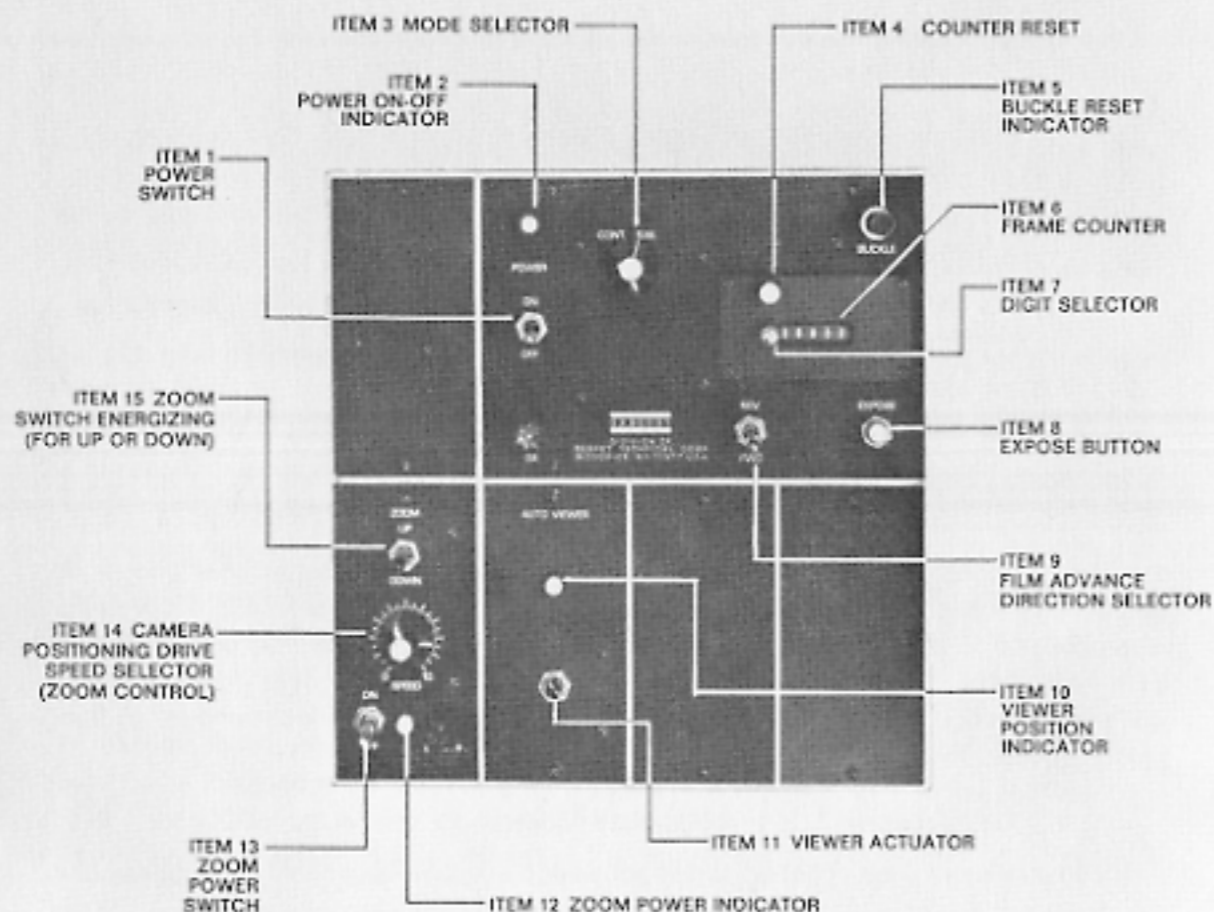

figure 17. Control Console.
- 1.2 **Film Advance:** The film will automatically be advanced at the rate of 180 frames per minute by a built-in stop motion motor each time the expose button (Item 8, Fig. 17) is pressed or as long as the mode selector (Item 3, Fig. 17) is on "CONT", continuous; if the film is properly threaded, power is on, the unit plugged into an outlet, and the Reset has been pressed.
- 1.5 **Buckle Switch:** A buckle switch is provided with the camera for use with the auxiliary 400' magazine. The camera will automatically stop with the shutter closed when this switch is activated by the film and a red indicator light (Item 5, Fig. 17) will glow.
- a) 24 frame dissolve: Place the advance selector (Item 9, Fig. 17) in "Fwd." (forward). Turn the knob controlling the auxiliary shutter from open to the first cross line (short) on the top half of the scale and press the "Expose" button. Rotate the knob until the indicator is on the next line (long) and press the "Expose" button. Continue this procedure until "Closed" is reached. Leave the shutter in the "Closed" position and place the advance selector in the "Rev." (Reverse) position. Activate unit until the frame counter reading is the same as the reading was when the dissolve was started. Place the advance selector in "Fwd", forward. Rotate the auxiliary shutter from closed to the first cross line (short) next to the closed position. Lock the shutter and press the "Expose" button. Continue this procedure until "Open" is reached. The result will be a 24 frame dissolve.
3.2 Frame Counter: (Item 6, Fig. 17)
- b) The counter may be reset to "0" by pressing the button (Item 4, Fig. 17) in and releasing. If this is done at the start of each sequence, the operator will have an indication through each sequence as to how many frames have been advanced.
- c) If it is necessary to change the count on the counter for any reason, the Digit Selector (Item 7, Fig. 17) is provided for this purpose.
- Press the "Viewer" actuator (Item 11, Fig. 17) momentarily and release. When the viewer is in position, the indicator light (Item 10, Fig. 17) will glow.
- Activate the zoom motor: Place the zoom power switch (Item 13, Fig. 17) in the "ON" position. The indicator light (Item 12, Fig. 17) will glow when the switch is in the "on" position.
- Select speed of zoom motor: Rotate knob (Item 14, Fig. 17) to the midway position. NOTE: Experience with the unit will dictate when the zoom motor should move faster or slower than this: In general, for short changes of camera position slower speeds should be used and for long changes of camera position the faster speeds are more desirable.
- Energize the zoom motor: Push the energizing switch (Item 15, Fig. 17) either up or down for the camera direction needed and hold the switch until the camera position is correct as indicated by the projected reticle. The reticle is marked with three rectangles. The smallest rectangle is dotted and allows for a 25% cutoff for T.V. The next larger rectangle indicates the area that will be projected on the screen. The largest rectangle indicates the area that will be exposed on the film. (See Fig. 19)
f) Deactivate the zoom circuits: Place the zoom power switch (Item 13, Fig. 17) in the "OFF" position. This precaution will avoid the possibility of the camera being accidentally moved during the photography.
g) Return the viewer to its normal position: Press the "viewer" actuator (Item 11, Fig. 17) momentarily and release. If the toggle switch controlling the projection lamp was placed in the "ON" position, place it in the "OFF" position.
a) After positioning the camera for the start of the zoom as described in 3.3, turn the rheostat (Item 14, Fig. 17) as far as it will go counterclockwise and mark the scale for the end of the zoom.
c) Turn the rheostat (Item 14, Fig. 17) as far counterclockwise as it will go, close the auxiliary shutter, mark down the frame counter reading and the zoom counter reading.